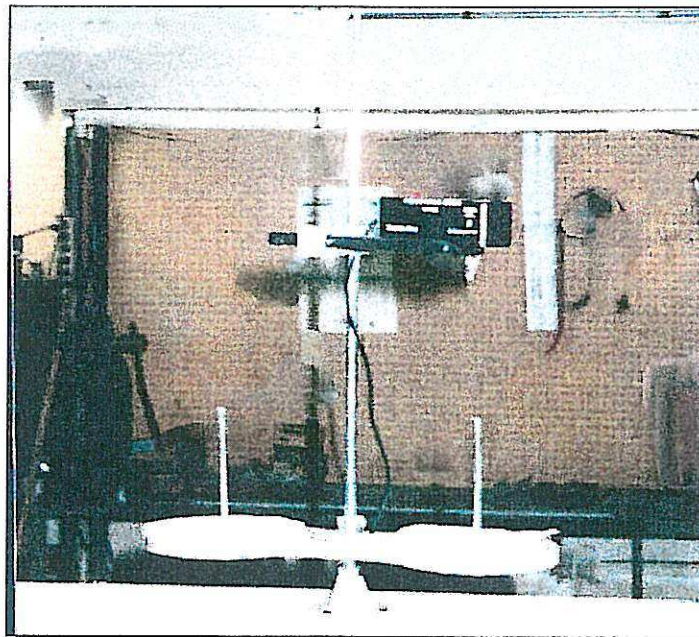

Figure 2.8
M. Mount the Thread stand to the top of the bridge and connect the wire plug for the Thread sensor. See *Figure 2.8*.